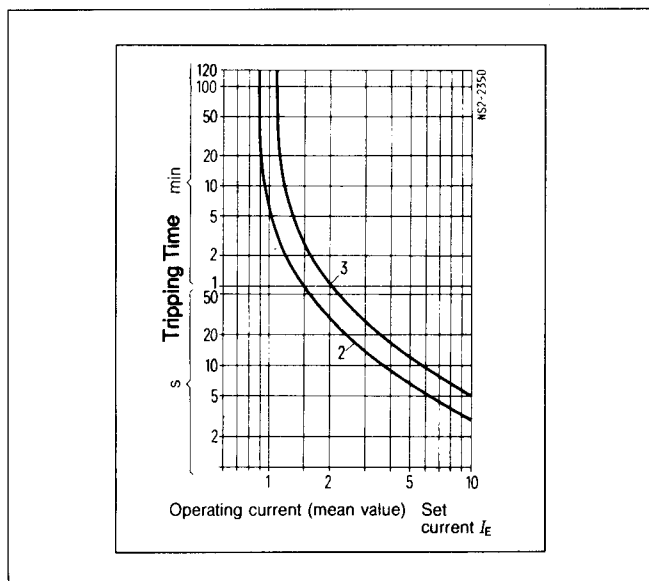

Figure 30: 3UA Overload Relay Time-Current Tripping Curves
Single Phasing Protection - In addition to motor overload protection, the internal trip mechanism provides motor single phase protection. Referring to **Figure 30**, Curve 3 shows the normal three phase time-current tripping relationship. The relay senses a loss of phase condition and shifts the time-current tripping response curve to the left as shown by Curve 2. As a result of this curve shift and the higher single phase current, the tripping time of the overload relay will be reduced.
4. Energize the relay with test current between 125% and 1000% of the overload relay trip setting and measure the time to trip. The test trip time should be approximately equal to the average tripping time shown on curve 3 in **Figure 30**.
6. The overload relay may be tested with single phase test current applied to individual poles. In this case, test tripping time should be approximately equal to the average tripping time shown on curve 2 in **Figure 30**.